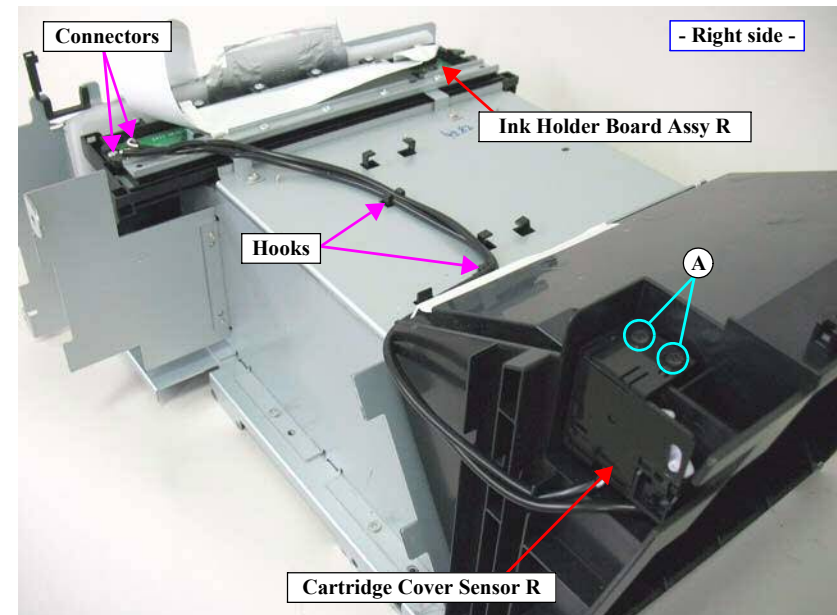

Figure 4-43. Removing the Cartridge Cover Sensor R
9. Release the harness from the two hooks. See Figure 4-43.